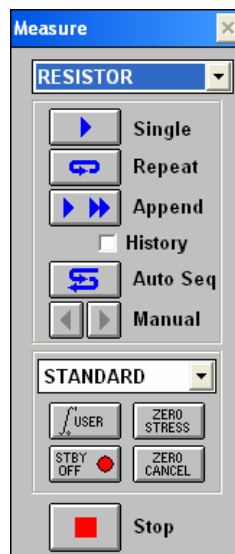

Fig. 8: Measurement control window
13. Now select **Measure** → **Measure...** or click on this button  to bring up the measurement controls (Fig. 8). Make sure the name of your test setup (**RESISTOR**, in this case) is selected, then click on the **Single** measurement button. The parameter analyzer has an LED that will light up to indicate that its taking a measurement. You will also see a message at the bottom of the ICS program window. When the message disappears, the measurement is finished.